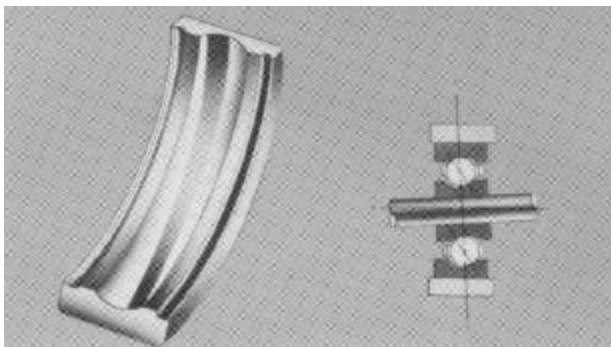

**Figure 9 Brinelling**
4. Improper assembly can cause brinelling (Figure 9). Driving or pressing on one race while supporting the other is the primary cause.